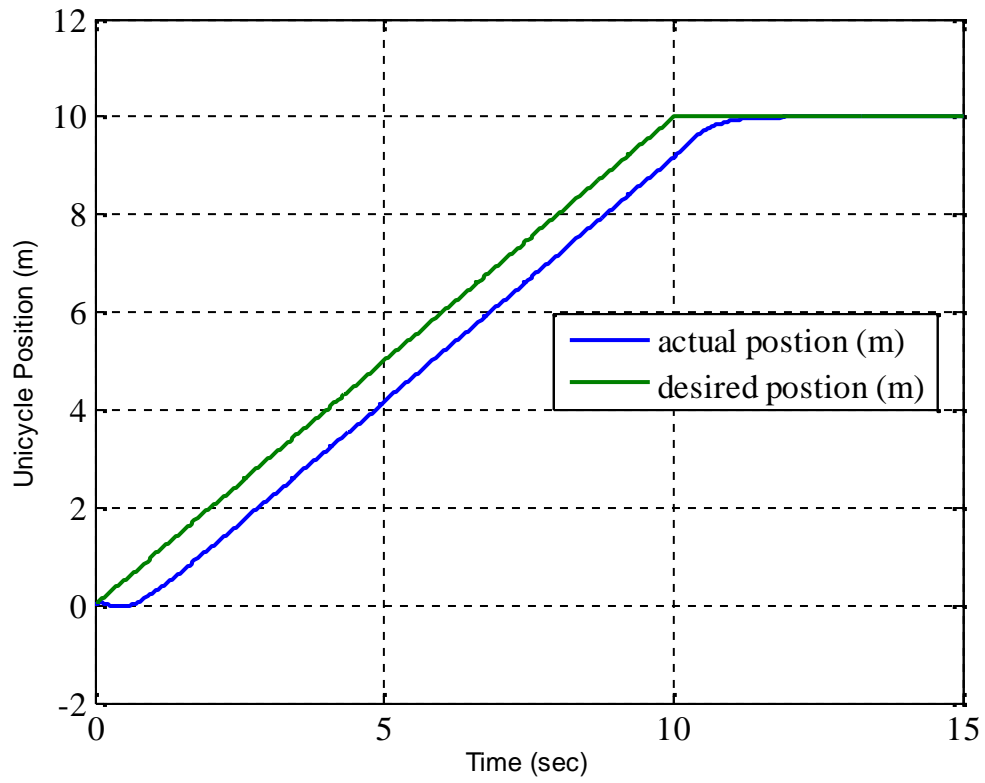

Figure 4.8 Unicycle position with time
- Zero steady-state error in unicycle position, and that is resulted from the system model type number (Figure 4.8).